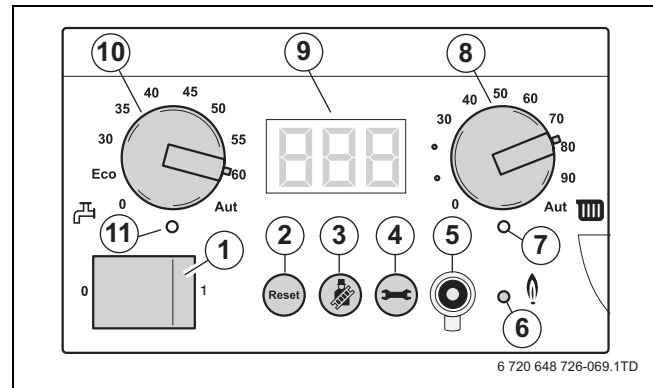

Fig. 86 BC10 basic controller
- ▶ Switch off the heating system by pressing the mains switch of the BC10 basic controller (→ fig. 86, [1]).
- ▶ Switch on the heating system by pressing the mains switch of the BC10 basic controller (→ fig. 86, [1]).
- ▶ After the "Burner" LED (→ fig. 86, [6]) has lit up wait for one minute until the boiler is burning at part load.
- ▶ Press the "Chimney sweep" button (→ fig. 86, [3]) until the dot disappears from the display.